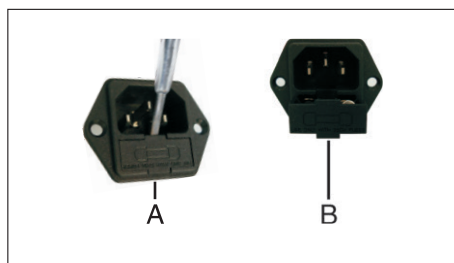

Fig.12
10.1 Insert the flat tip of a screwdriver into the recess in the fuse compartment below the power socket and use it as a lever (Fig.12-Ref.A);
10.2 Pull out the fuse compartment (Fig.12-Ref.B);
10.4 Put the compartment back into place (Fig.12-Ref.B).